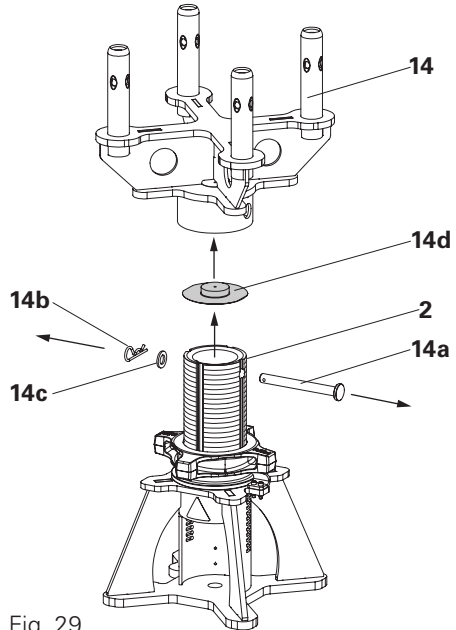

Fig. 29
2. Remove Connector UJC (14) upwards by hand.
3. Remove spherical piece (14d) from the spindle tube (2) in case it has been released. (Fig. 29)